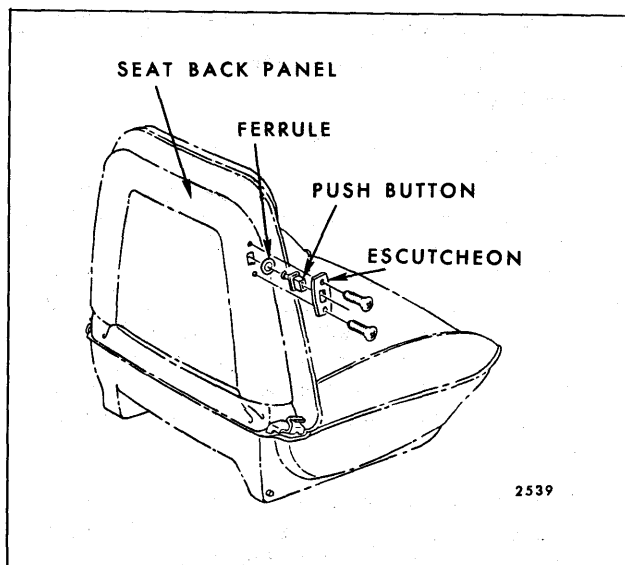

Fig. 15-36—Strato Seat Back Lock Push Button
1. Remove seat back lock push button escutcheon attaching screws and remove push button escutcheon, push button and ferrule (Fig. 15-36).